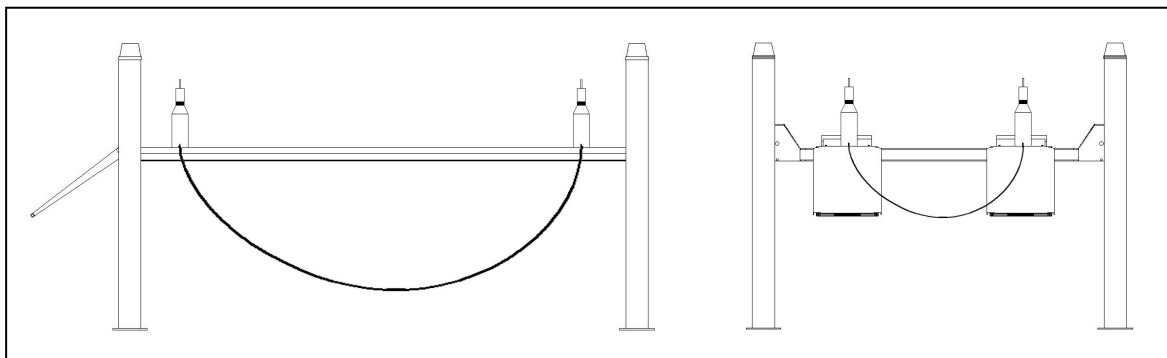

Figure 27
- Inspect the levelness on all sides of plan for left and right platform with transparent leveling pipe or level-mete (figure 27)